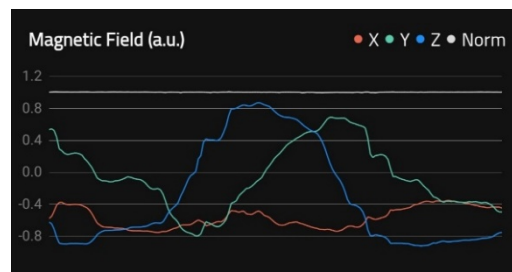

Figure 5: Mag Norm is constant while moving
- Areas for which the magnetic norm = 1 and the variation remains within  $\pm 0.2$  are **magnetic homogeneous** and is optimal for carrying out the measurements (see Figure 5). However, if the measurement begins with a magnetic norm of around 2 or 3, and remains within  $\pm 0.2$  of this value, the orientation should remain accurate.